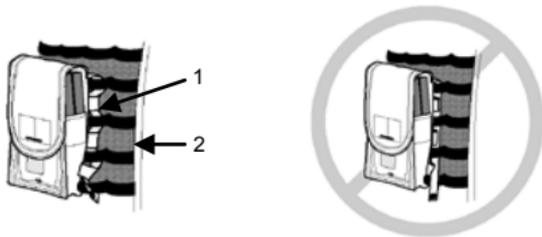

Figure 1. Correct (Left) and Incorrect (Right) Pouch/Pocket Attachment.
4. Continue weaving the attaching straps (Figure 1, Item 1) behind the horizontal webbing (Figure 1, Item 2) on the vest and the webbing on the back of the pouch, until the pouch is secured along its entire length.